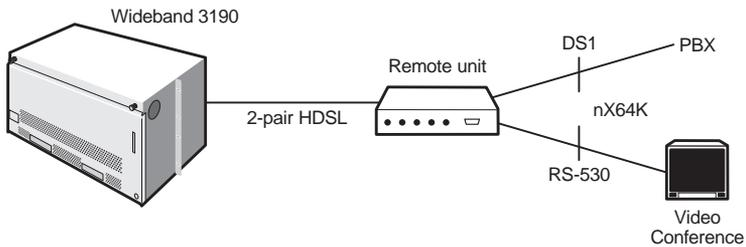

Figure 1. Typical HLU-819 List 1 Application
This guide contains installation information for the PairGain® HiGain® Line Unit HLU-819 List 1. The HLU-819 installs in any 3192-compliant chassis and interfaces with the PairGain HiGain ETSI™ Universal Termination Unit UTU-814 List 1B. The HLU-819 and the UTU-814 provide the Central Office (CO) and remote terminal (RT) sides of a repeaterless, High bit-rate Digital Subscriber Line (HDSL). The RT provides both DSX-1 (T1) and data interface (V.35, V.36, RS-449, X.21, or RS 530) ports to the customer (see Figure 1). The HLU-819 accepts the respective payloads through a DSX-1 port from a multiplexer or a DS1 cross-connect shelf and transports it to the UTU-814 List 1B at a maximum data rate of up to 1.544 Mbps. An internal time slot assignment function splits the DS1 bandwidth between these two ports as two Nx64K tributaries.